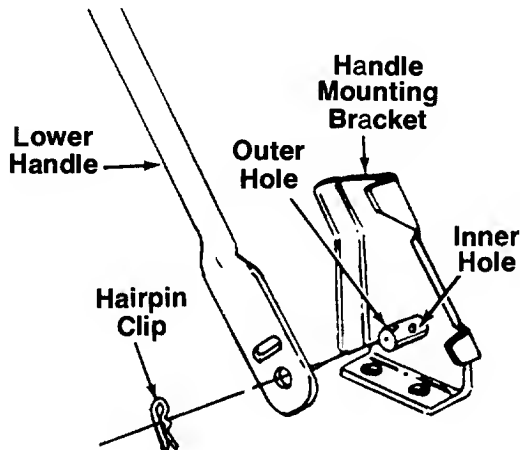

FIGURE 1.
- ← See figure 1. Repeat on other side.